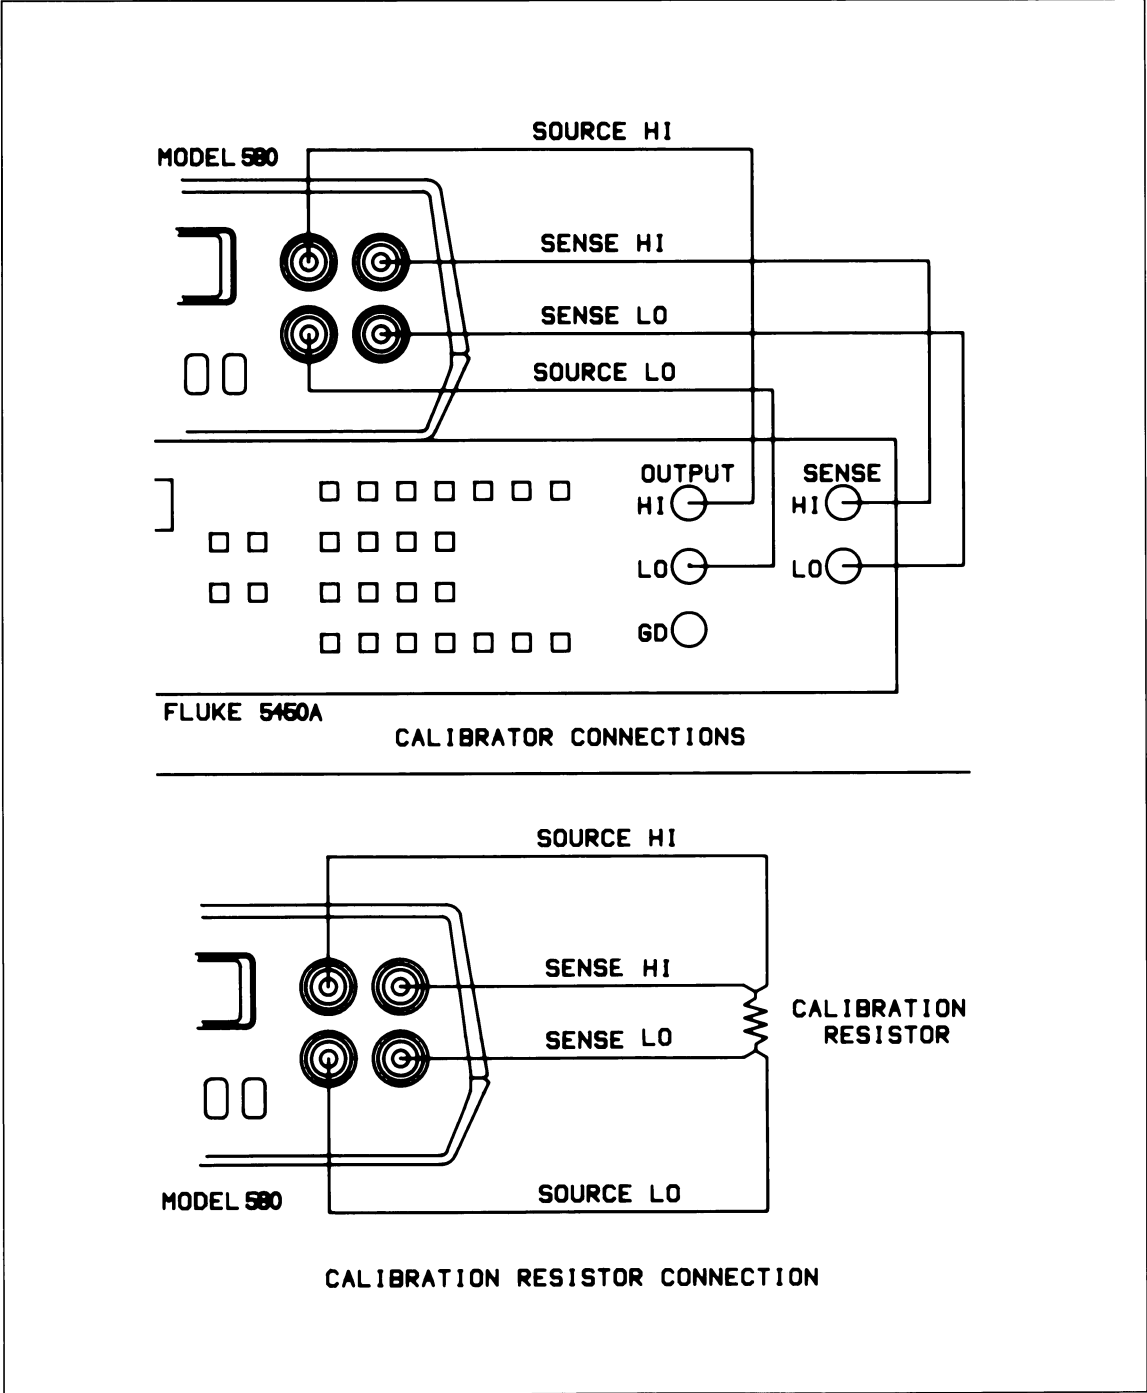

Figure 2-1. Connections for Four Terminal Resistance Verification
3. Connect a 190m Ω calibration resistor as shown in Figure 2-1. Note that this is a four terminal configuration. Be sure that the test clips are firmly clamped to the resistor to get an accurate measurement.